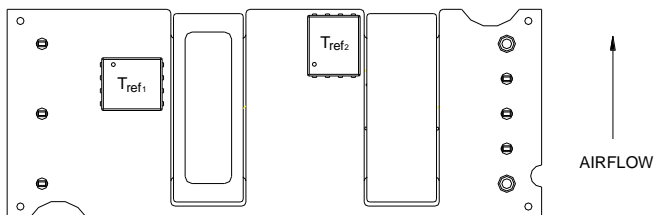
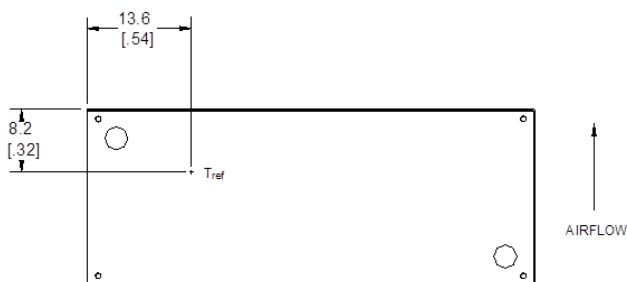

Figure 13. T_{ref} Temperature Measurement Locations for Open Frame Module.
Figure 14. T_{ref} Temperature Measurement Location for Module with Heatplate.
To provide protection under certain fault conditions, the unit is equipped with a thermal shutdown circuit. The unit will shutdown if the thermal reference points, T_{ref} , exceed 135 °C (Figure 13, typical) or 120 °C (Figure 14, typical) respectively, but the thermal shutdown is not intended as a guarantee that the unit will survive temperatures beyond its rating. The module will automatically restart upon cool-down to a safe temperature.
The thermal reference points, T_{ref1} , and T_{ref2} used in the specifications for open frame modules are shown in Figure 13. For reliable operation these temperatures should not exceed 124 °C & 121 °C respectively
The thermal reference point, T_{ref} , used in the specifications for modules with heatplate is shown in Figure 14. For reliable operation this temperature should not exceed 98°C.